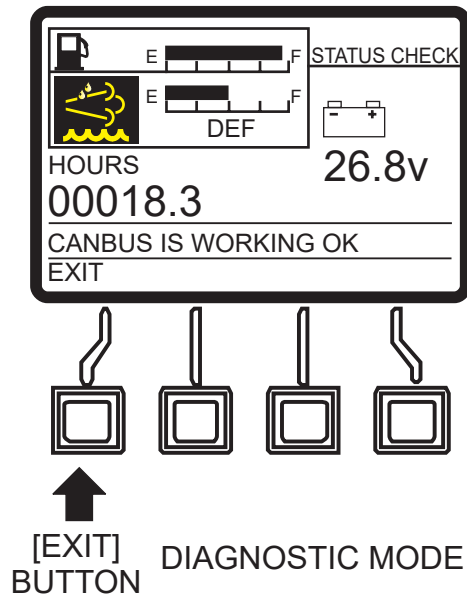

Figure 90. Status Check Screen (Diagnostic Mode)
2. Exit the Status Check Screen by pressing the [EXIT] button (Figure 90).